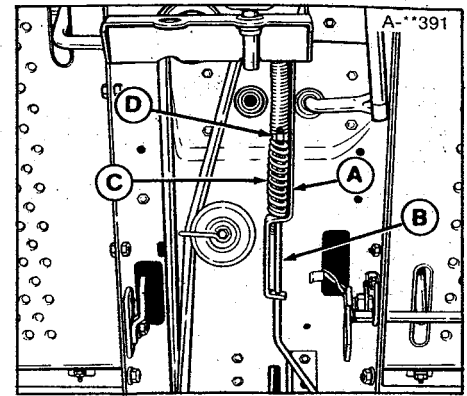

Figure 28. Brake Adjustment
3. With the rod guide (A, figure 28) on brake-rod as far rearward as slot will allow, the nut (D) should be snug against spring (C), but spring should still be able to rotate. Tighten or loosen nut as necessary to achieve this.